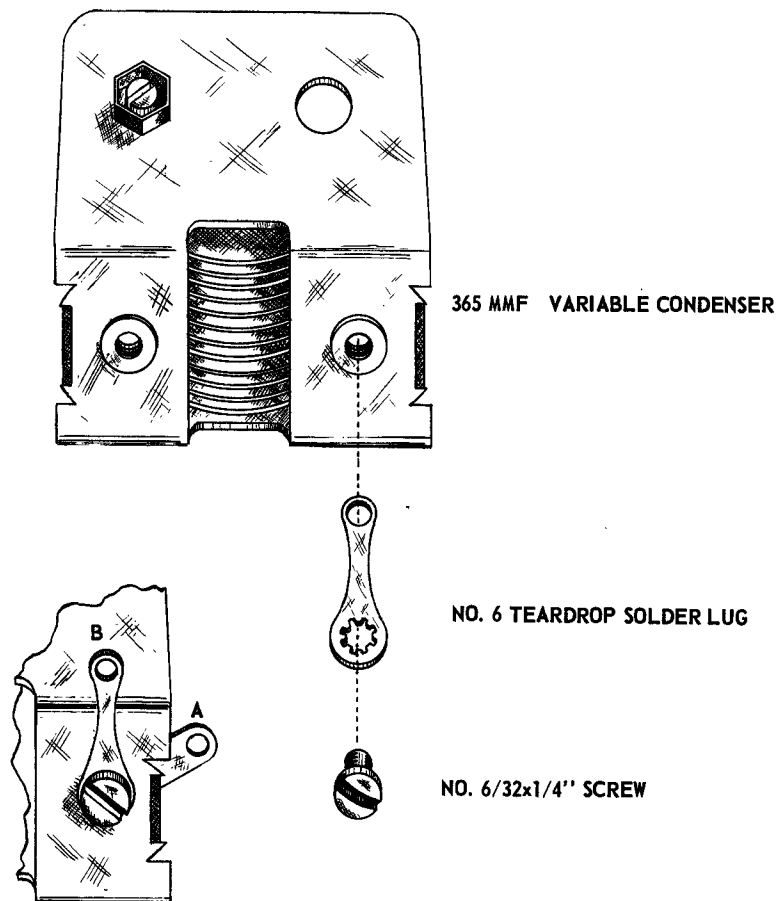

Figure 5.
- 44. Attach a tear drop type #6 grounding lug to the rear frame of tuning condenser TC-1. Use a 6-32 $\times\frac{1}{4}$ " screw and attach the lug so that it protrudes from the rear frame of the condenser as per Fig. 5. Tighten securely.
- 45. Attach a tear drop type #6 grounding lug to the rear frame of tuning condenser TC-2. Use a 6-32x $\frac{1}{4}$ " screw and attach the lug so that it protrudes from the rear frame of the condenser as per Fig. 5. Tighten securely.